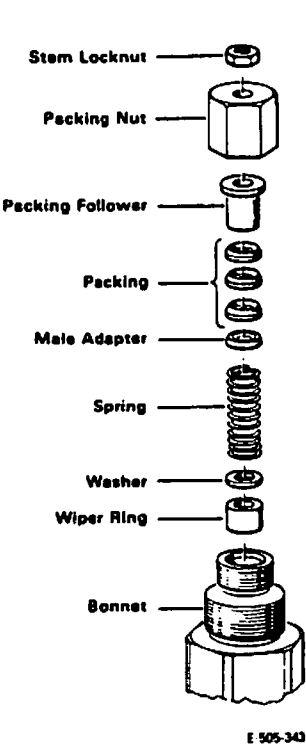

Figure 15. Standard Packing Spring Loaded TFE V-Ring
- a. **TFE Packing** - Use packing tool, part number 153P9, Figure 14, to prevent damaging packing. Slide tool over valve stem threads. Lightly coat TFE packing with silicone grease, W.E Anderson part number 353M27 (Dow Corning Number 17 compound). Slide packing over stem in the order shown in figure 15 or 18 through 21, choosing the view that applies to the packing being replaced.